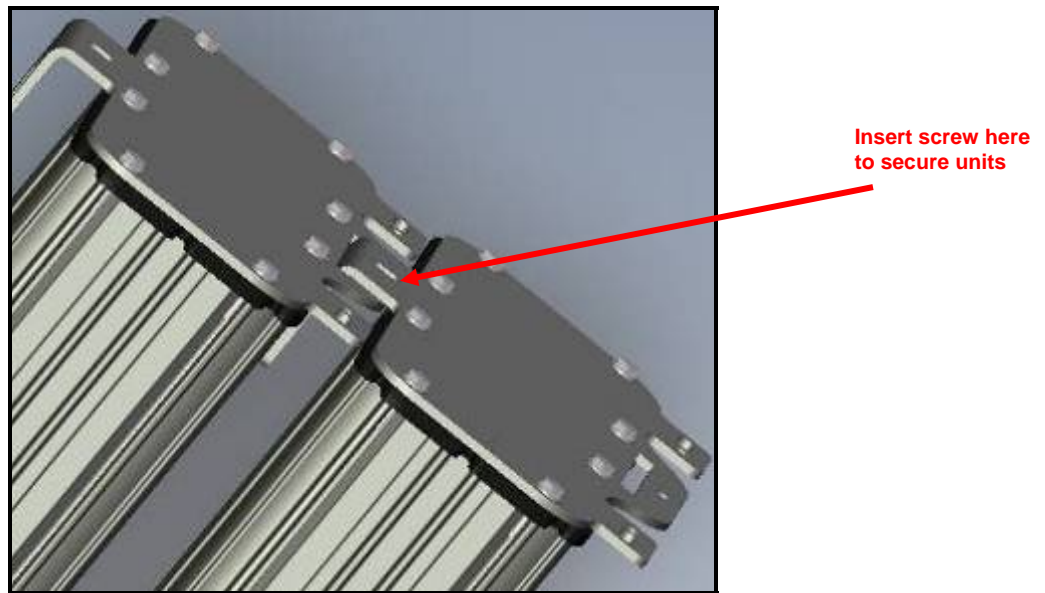

Figure 42 – Securing Backhaul Point to Bridge
2. Using two (2) #10 screws (*see Appendix A for selection*), secure the two Bridges as shown in *Figure 42*.
2. Using two (2) #10 screws (*see Appendix A for selection*), secure the two Bridges together as shown in *Figure 42*.